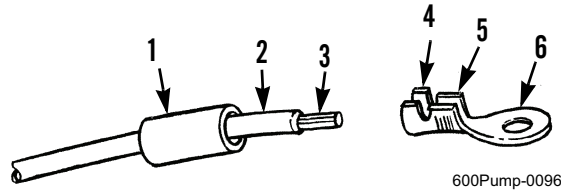

Figure 2. Ring Terminal Repair.
1. Remove ring terminal (Figure 2, Item 6) from wire (Figure 2, Item 2) by cutting through wire just behind heat-shrinkable tubing (Figure 2, Item 1).
2. Cut heat-shrinkable tubing (Figure 2, Item 1) to length sufficient to cover tabs (Figure 2, Items 4 and 5) of ring terminal (Figure 2, Item 6) and 1/4 in. (6-mm) of wire (Figure 2, Item 2).
3. Slide heat-shrinkable tubing (Figure 2, Item 1) back on wire (Figure 2, Item 2).
4. Using wire stripping tool, strip insulation from wire (Figure 2, Item 2) to expose proper length of metal strands (Figure 2, Item 3).
5. Using crimping tool, securely crimp tabs (Figure 2, Item 5) of ring terminal (Figure 2, Item 6) over metal strands (Figure 2, Item 3).
6. Using crimping tool, crimp tabs (Figure 2, Item 4) of ring terminal (Figure 2, Item 6) over insulation of wire (Figure 2, Item 2).
7. Slide heat-shrinkable tubing (Figure 2, Item 1) over tabs (Figure 2, Items 4 and 5) of ring terminal (Figure 2, Item 6).
8. Use a heat gun to apply heat to heat-shrinkable tubing (Figure 2, Item 1) until tubing snugly conforms to ring terminal (Figure 2, Item 6) and insulation of wire (Figure 2, Item 2).